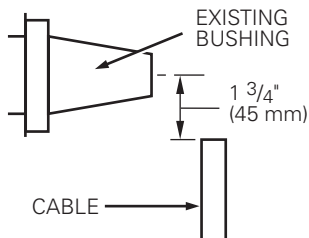

Figure 2. Line illustration for cable training.
- Cut cable 1-3/4 inches (45 mm) from centerline of bushing. (Refer to Figure 2.)